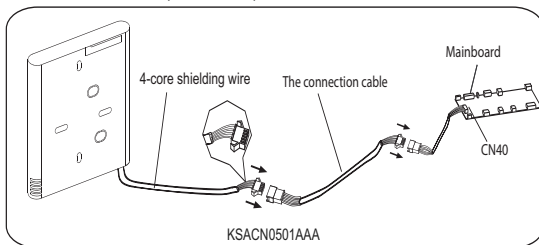

Fig. 4 — Installation of KSACN0501AAA for Cassette, Ducted Indoor Models
1. Connect the female joint of the wires group from the mainboard with the male joint of the connective wires group (see Fig. 4).
2. Connect the other side of the connective wires group with the male joint of the wires group leads from the wire controller (see Fig. 4).